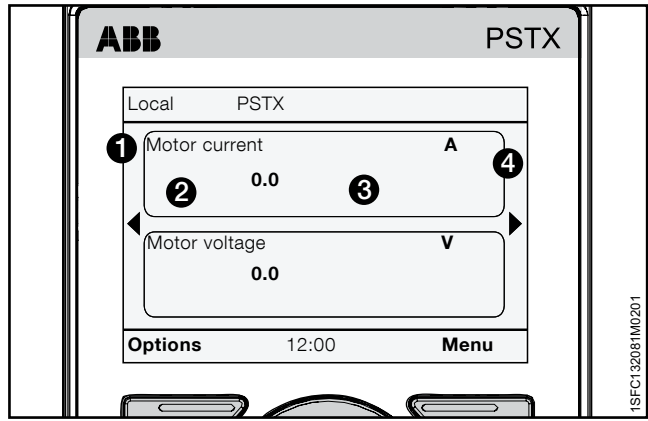

Figure 6.19
Select the display style for the home view. The selected display style is shown by ② in **Figure 6.19**.
Push "Save" to save the value. Decimal numbers are shown in ③ in **Figure 6.19**.
Push  "Save" to save the display name. Display name is shown by ① in **Figure 6.19**.
Push  "Save" to save the value. Value is shown by ③ in **Figure 6.19**.
Display signal min as - Push  "Edit" to select the scaled minimum value in the Home view. Use the Navigation keys to change the value, Push  "Save" to save the value. See ③ in **Figure 6.19**.
Display signal max as - Select the scaled maximum value to show in the Home view. Use the Navigation keys to change the value, Push  "Save" to save the value. See ③ in **Figure 6.19**.
Display unit - Type in the unit to show in the Home view. You can type a unit with up to 10 characters. Use the Navigation keys to change the characters. Push  "Save" to save the Home view unit name. See ④ in **Figure 6.19**.